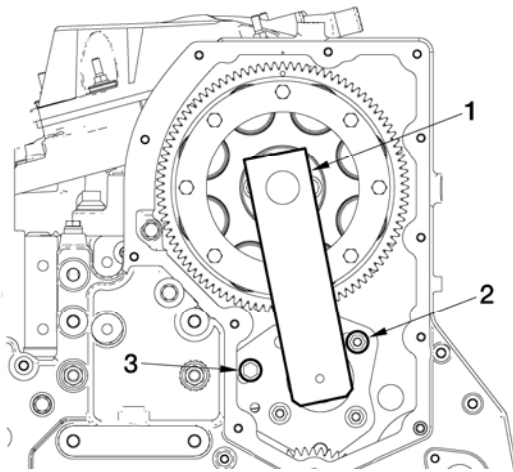

Figure 17 Idler Gear Backlash Adjustment
22. Set correct gear backlash with service tool (sets correct idler-to-cam gear center distance) as shown, and torque nuts and bolt to 40 ft-lb (54 N·m) (Figure 17, Items 1, 2, 3). Refer to EGES-510, Timing gear lash, Installation.